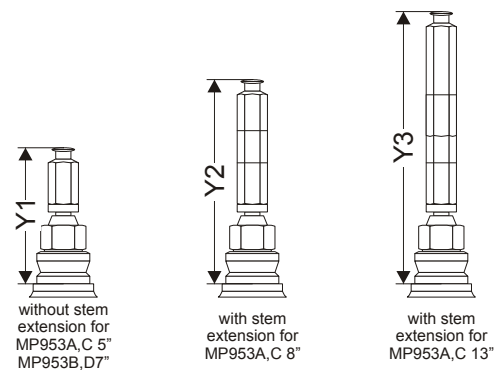

Fig. 5. Stem extensions
2. Remove the stem button (see also Fig. 5).